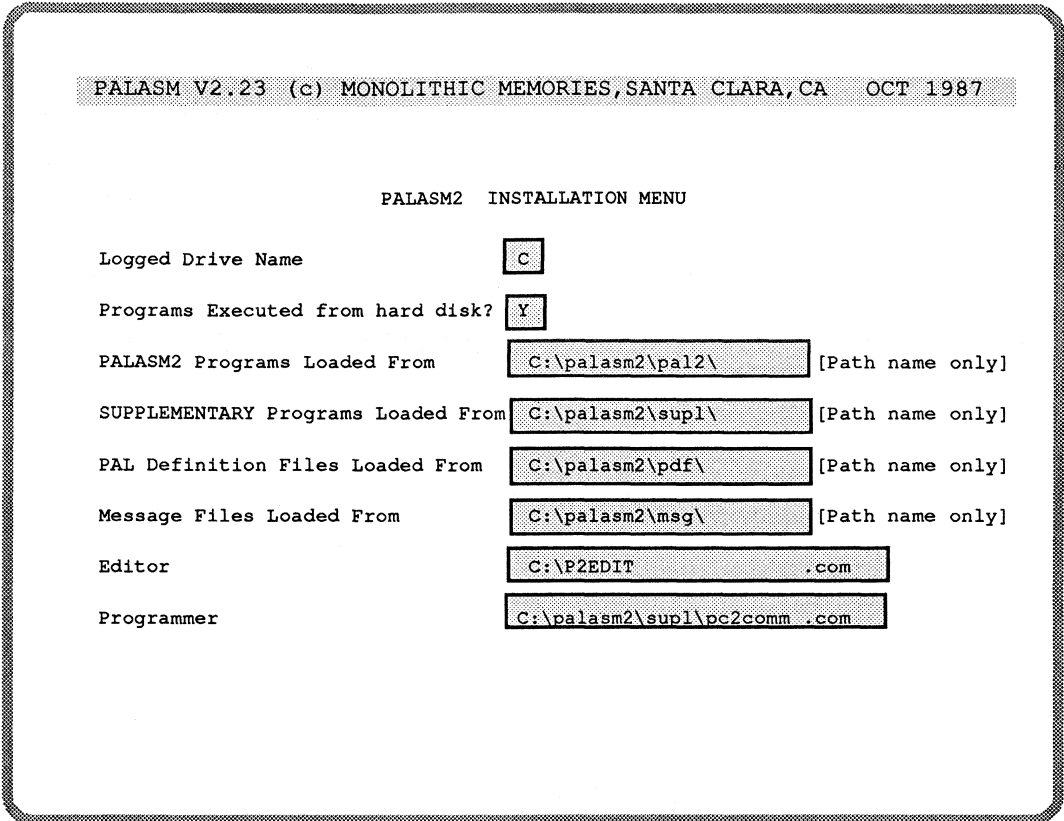

Figure 4-6
1. From the main menu, press <F6>. The screen displays the installation menu, as shown in Figure 4-6.